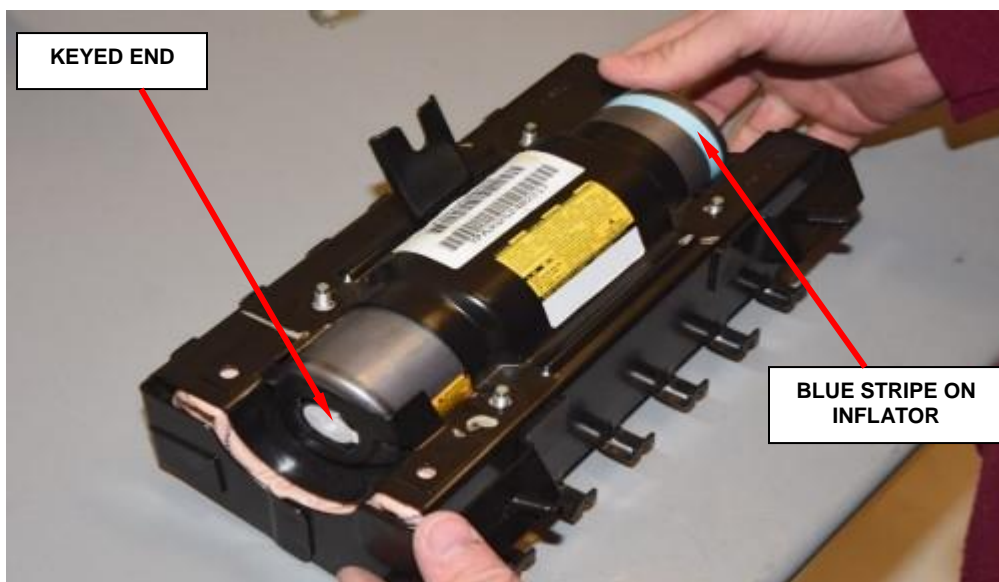

Figure 157 – Insert Inflator
- k. Slide **new** inflator into housing. The keyed end is inserted first, therefore the blue stripe on the inflator will be located at the open end, as shown (Figure 157).